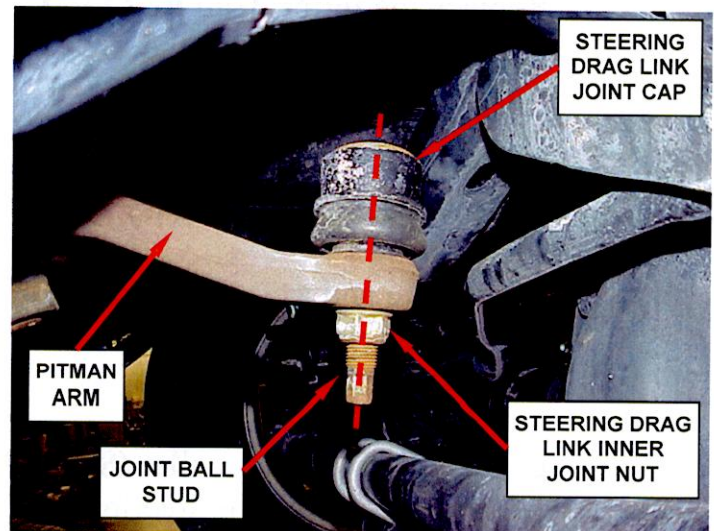

Figure 12 – Drag Link Joint Cap Alignment
- j. With the wheels in the straight ahead position, make sure that **both inner and outer steering drag link joint caps** are centered over the joint ball stud (Figure 12).